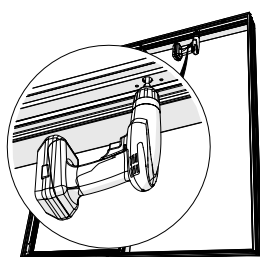

Figure 20: Drill in top in pre-drilled holes in aluminum, behind soft-close catches
19. The element is non-load-bearing, so there must be no weight load on the top frame, and it must not be sealed with mortar (figure 20).